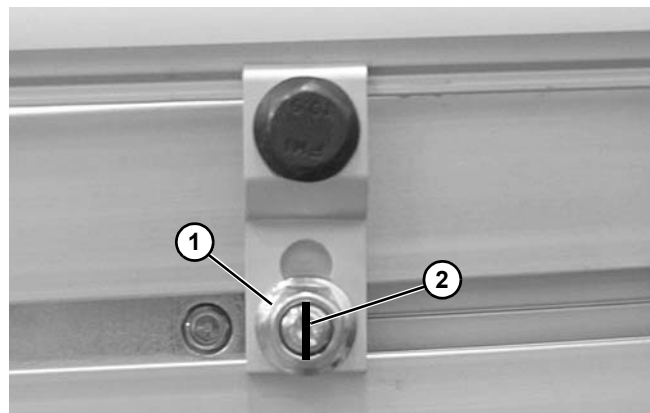

Figure 85
- Tighten nuts (**Figure 85, item 1**).
*Be certain that slot (**Figure 85, item 2**) is close to vertical when finished tightening nut.*